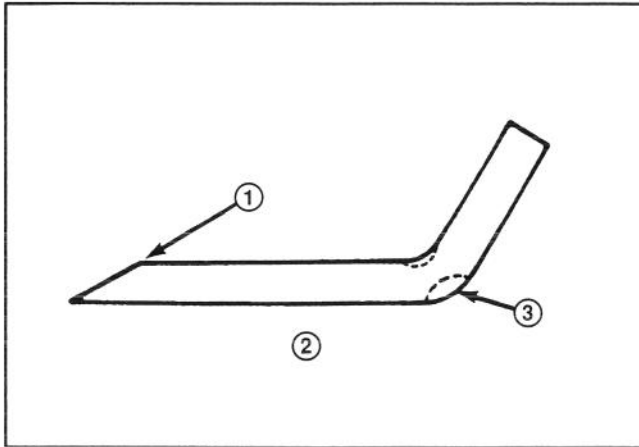

Figure 16
Check the cutter blade each time you tip the rider on end. If the bolt holding the blade is loose, tighten it to 45–60 ft/lb (61–81 Nm). If the blade or the sail (Fig. 16) at the end of the blade is worn, eroded, or cracked, replace the blade. Replace the blade if it is bent or out of balance. Always use a genuine TORO replacement blade to ensure safety and best performance. **NEVER USE A WILL-FIT REPLACEMENT BLADE.**
7. Using a file, sharpen the cutting edge at both ends of the blade (Fig. 16).